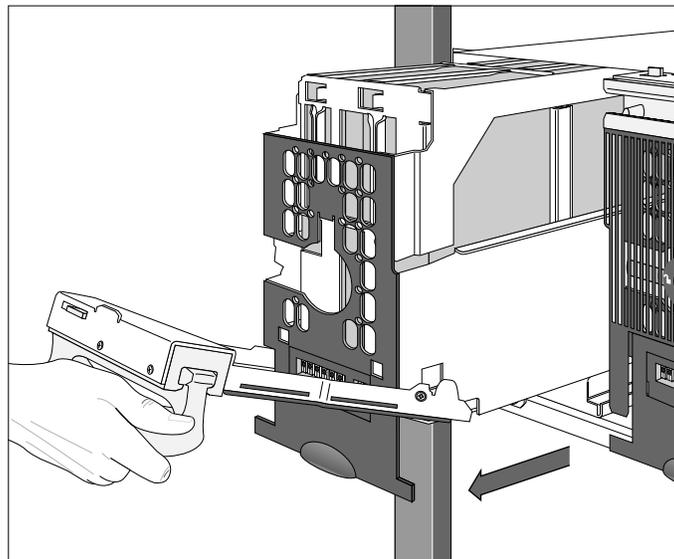

Figure 23. Opening the drive drawer
9. Pull down on the drive drawer handle, and slide the drawer out of the chassis just far enough to access the Disk DCC, as shown in Figure 23.